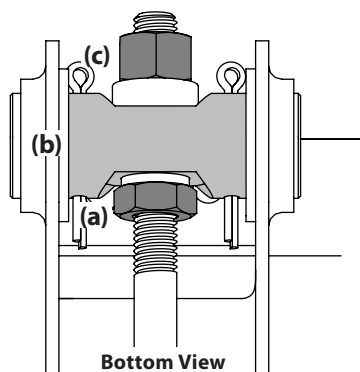

Figure 4-8
- Using a wrench, raise the front of deck by loosening the lock nuts (a) to the front of the pivot pin (b) and then tighten the jam nuts (c) on the back of the pivot pin to raise the front of the deck and secure in place. See Figure 4-8.
- Using a wrench, lower the front of deck by loosening the jam nuts (c) on the back of the pivot pin (b) and then tighten the lock nut (a) on the front of the pivot pin to lower the front of the deck and secure in place. See Figure 4-8.